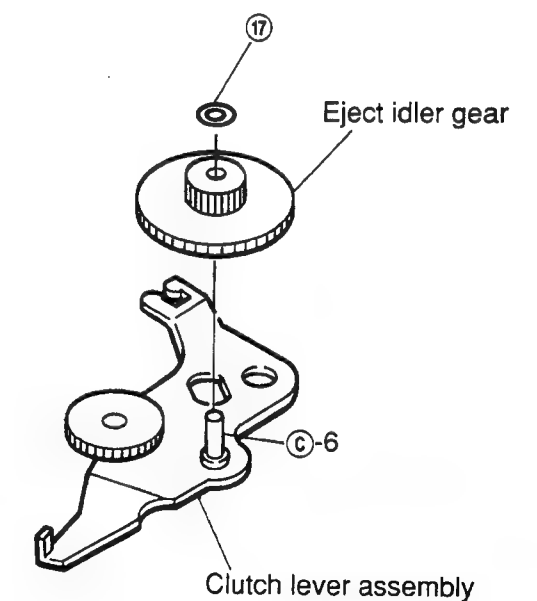

Figure 15
- (2) Remove M1.2 lock washer ⑰ and remove the eject idler gear as shown in Figure 15.
- (3) Mount the new gears and clutch lever following the removal steps in the reverse order.
Note: When mounting the gears to the lever, apply grease (PG-671) to the position C-6 as shown in Figure 15. Align the position C-7 with the position C-8 and mount the clutch lever as shown in Figures 10 and 15.